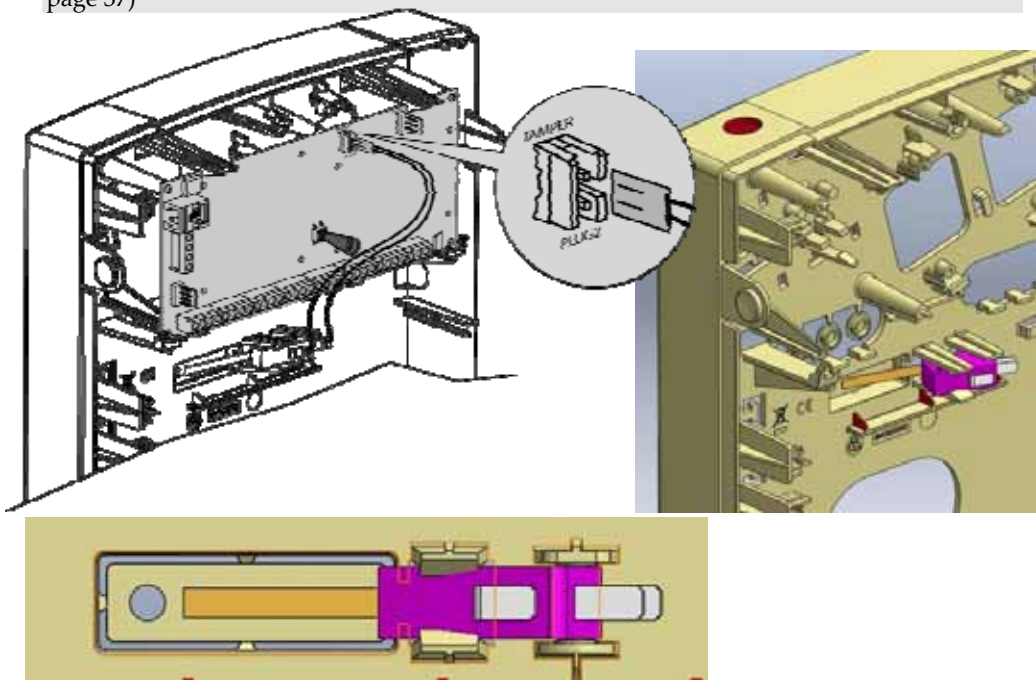

Figure 2-9: Perforated Back Tamper Release and Connection to PCB
3. Attach the tamper wires to PCB main board PLUG2 (see below, Figure 2-9).
The back tamper switch is located on the rear side of the back panel and is constantly depressed by the section shown in Figure 2-9